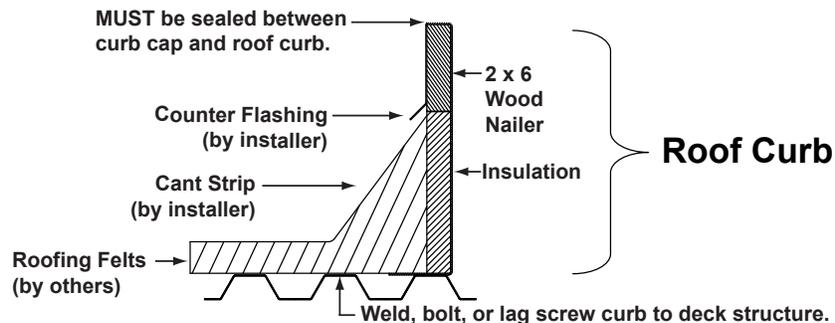

Figure 7. Cross-Section of Roof Curb Showing Construction Detail
8. Level roof curb. To ensure good weatherproof seal between cabinet curb cap and roof curb, curb must be leveled in both directions with no twist end-to-end. Shim as required and secure curb to roof deck before installing flashing (see Figure 7).